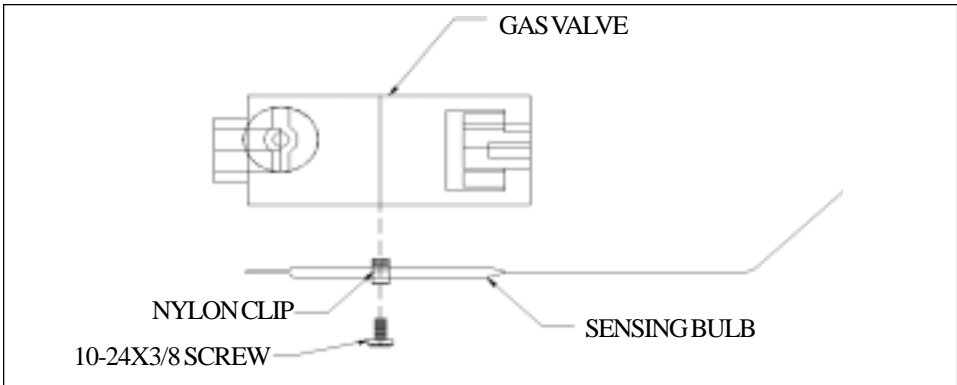

FIGURE 12
- STEP 13.** Secure the sensing bulb to the bottom of the gas valve using the nylon clamp and blunt screw provided. See Figure 12.